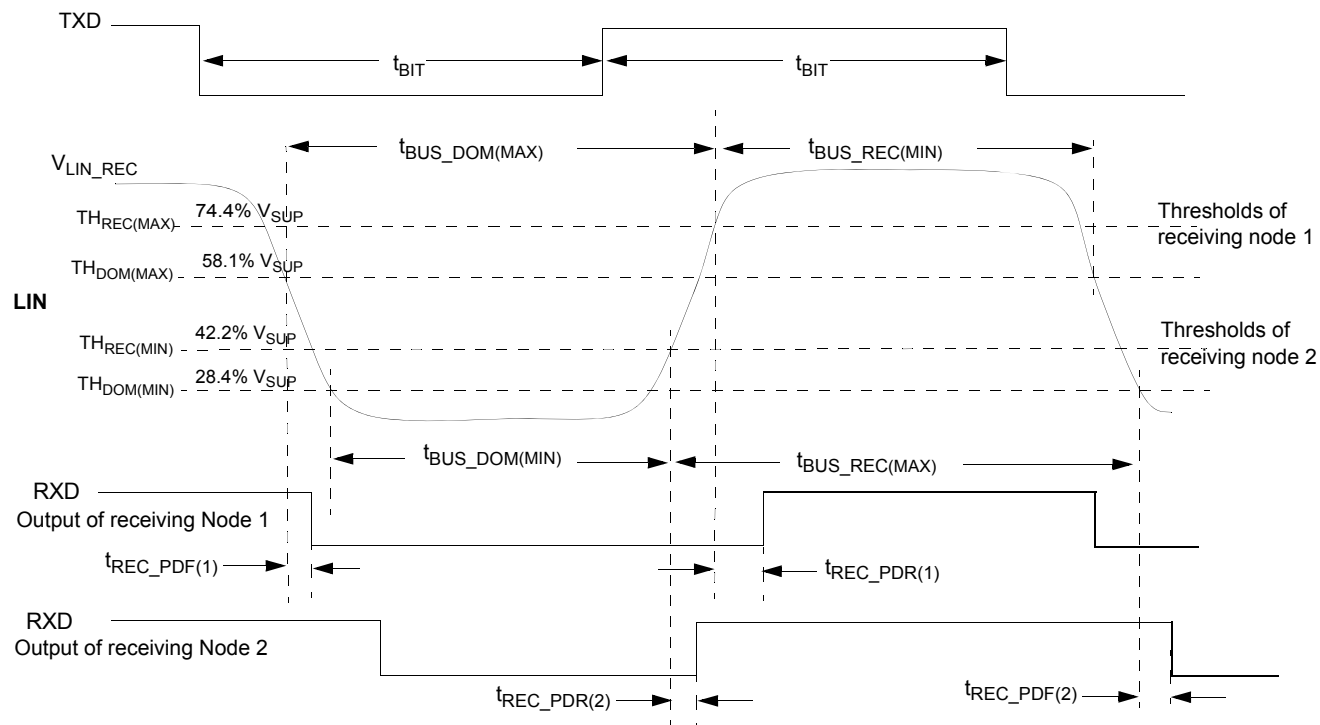
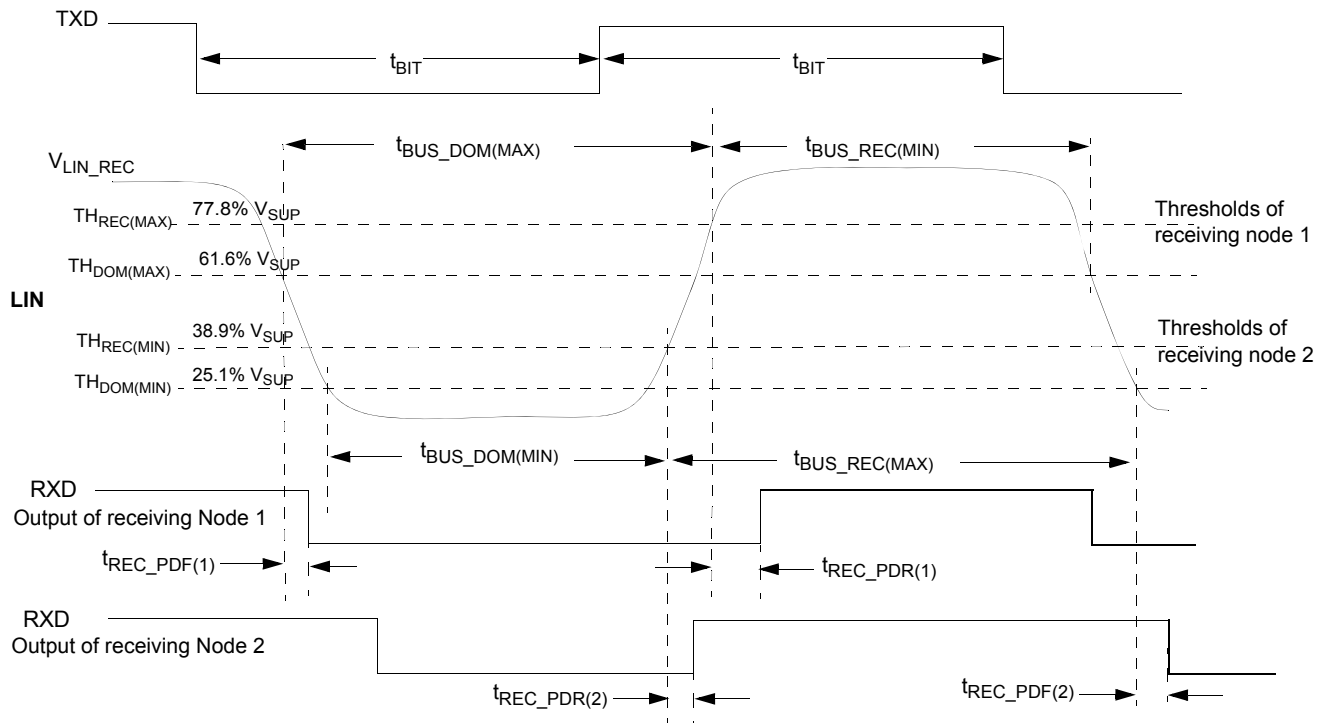

Figure 18. LIN Timing Measurements for Normal Slew Rate
Figure 19. LIN Timing Measurements for Slow Slew Rate
**BUS LOAD  $R_{\text{BUS}}$  AND  $C_{\text{BUS}}$  1.0 NF / 1.0 K $\Omega$ , 6.8 NF / 660  $\Omega$ , 10 NF / 500  $\Omega$ . SEE Figure 18, PAGE 32.**
**BUS LOAD  $R_{\text{BUS}}$  AND  $C_{\text{BUS}}$  1.0 NF / 1.0 K $\Omega$ , 6.8 NF / 660  $\Omega$ , 10 NF / 500  $\Omega$ . MEASUREMENT THRESHOLDS. SEE Figure 19, PAGE 33.**
**$V_{\text{SUP}}$  FROM 7.0 TO 18 V, BUS LOAD  $R_{\text{BUS}}$  AND  $C_{\text{BUS}}$  1.0 NF / 1.0 K $\Omega$ , 6.8 NF / 660  $\Omega$ , 10 NF / 500  $\Omega$ . SEE Figure 18, PAGE 32.**
| Propagation Delay and Symmetry (See <a href="#">Figure 18</a> , page 31 and <a href="#">Figure 19</a> , page 33)Propagation Delay of Receiver, $t_{\text{REC\_PD}} = \text{MAX}(t_{\text{REC\_PDR}}, t_{\text{REC\_PDF}})$Symmetry of Receiver Propagation Delay, $t_{\text{REC\_PDF}} - t_{\text{REC\_PDR}}$ | $t_{\text{REC\_PD}}$$t_{\text{REC\_SYM}}$ | --2.0 | 4.2- | 6.02.0 | $\mu\text{s}$ |